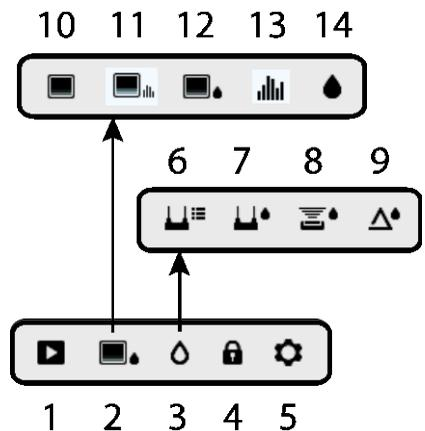

Fig. 4-2 Menu Icons
The Menu structure is outlined below and covered thoroughly in subsequent sections of this User Guide. The center Select button and the four (4) Navigation buttons are used to access and program the modes of operation available from the menus. Refer to Fig. 4-2.
Icons 1 through 5 in Fig. 4-2 make up the **Main Menu**. Press the Select button to open the Main Menu:
2. Image modes (items 10 to 14): IR, IGM Custom, IGM Moisture, Psychrometric, Moisture
Icons 6 through 9 in Fig. 4-2 are available in the **Moisture Mode Menu**. Press icon 3 to view these Moisture modes. A blue dot is shown to the left of the pin icon (7) or the pinless icon (8), depending on which is selected.
Icons 10 through 14 in Fig. 4-2 are available in the **Image Mode Menu**. Press icon 2 to view the Image Mode menu.